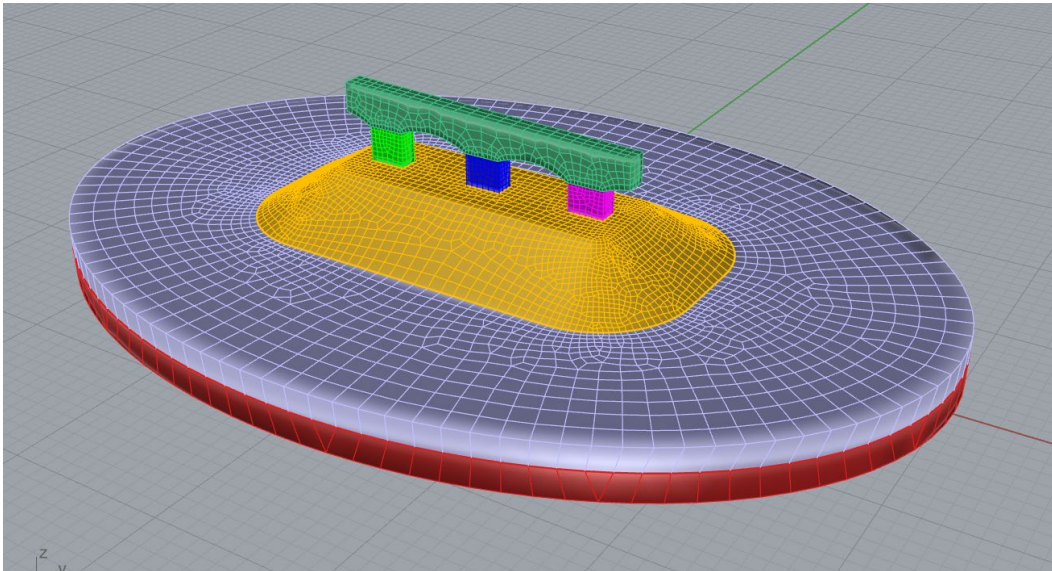

Figure 28: Mesh from Figure 27 “exploded” into sub-meshes, which are subsequently colored.
20. Select all (36) meshes and use *Griddle*'s command **_ColorizeObjects** or click on the  icon in the *Griddle* toolbar. This will assign a unique color to each *Rhino* object (Figure 28).